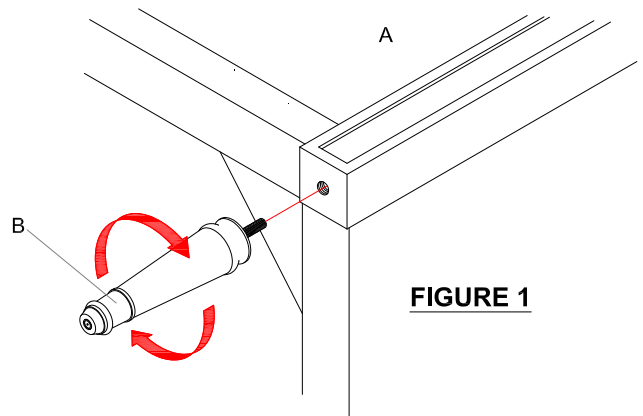

FIGURE 1
2. Align and insert the threaded rod of the leg (B) into the hole and turn clockwise direction to tighten it. Foot assembly by turning snug to firm hand-tight position. See FIGURE 1.